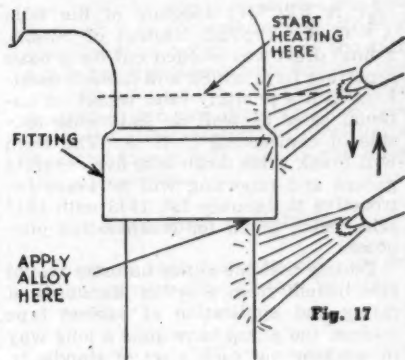

Fig. 17
- a—Start with preliminary heating of pipe as before. When flux is completely clear and liquid, transfer heat to fitting and sweep back and forth from fitting to pipe, Fig. 17. Do this all around. Be careful not to overheat pipe below fitting as this will cause alloy to run down pipe out of the joint.